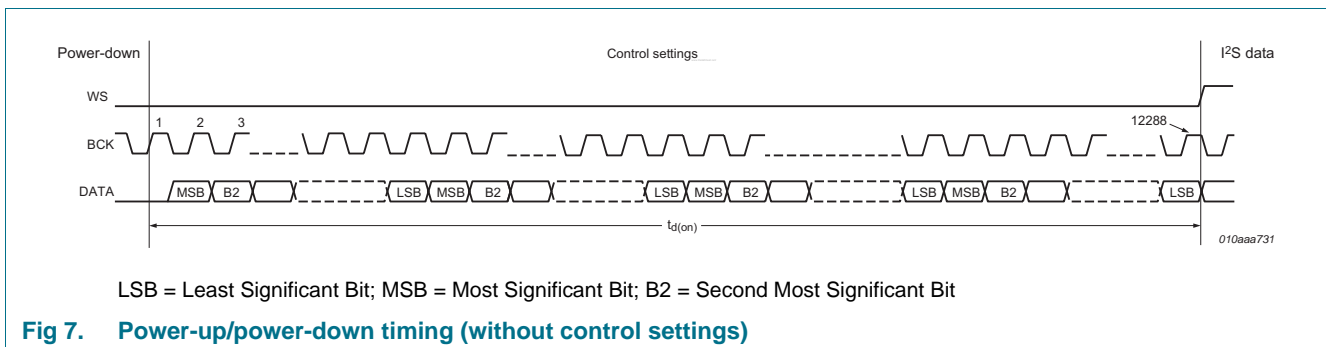

Fig 7. Power-up/power-down timing (without control settings)
The TFA9882 can detect control settings via the I²S input. Control settings are selected by transmitting control patterns on the DATA input during the power-up sequence (the first 12288 bit clock cycles). The word select signal (WS) must be switched off during this interval. Figure 7 illustrates the control setting sequence. After receiving 128 consecutive control setting bytes, the TFA9882 activates the appropriate control setting (see the third column of Table 7). Control settings remain unchanged in all modes unless control pattern 0xAA is received or the V_{DDDD} supply voltage is removed.